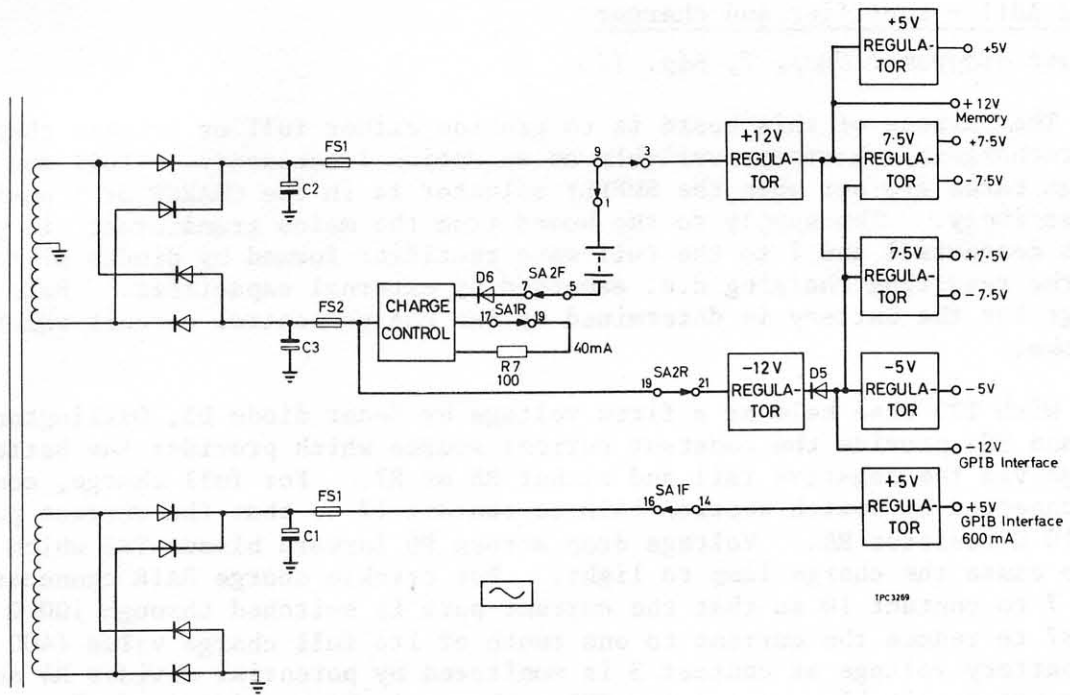

Fig. 19 AC operation with SUPPLY switch set to ~
64. With the SUPPLY selector set to \sim for a.c. operation both secondary windings of the mains transformer supply power (see Fig. 19). Instrument power is supplied from two full-wave rectifiers, to 12 V regulators on board AB12 feeding to 5 V regulators on board AB15 and 7.5 V regulators on boards AB1. 12 V regulated outputs also feed to the memory (+12 V) and GPIB interface (-12 V) boards. This secondary also supplies a trickle charge for the battery during a.c. operation to a maximum of 40 mA. The other secondary and bridge rectifier feeds to the +5 V regulator on board AB15 which supplies power to the GPIB interface board.